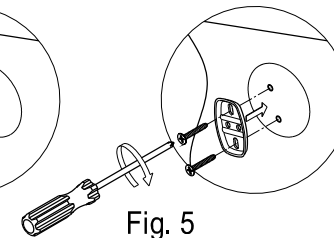

Fig. 5
Step 5. Screw the mounting plate (with the lips facing out) to the wall with the mounting screws (fig. 5).